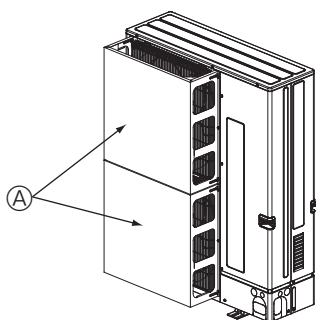

Fig. 2-5
- ② Install an optional air protection guide if the unit is installed in a location where strong winds from a typhoon, etc. may directly enter the air outlet. (Fig. 2-5)